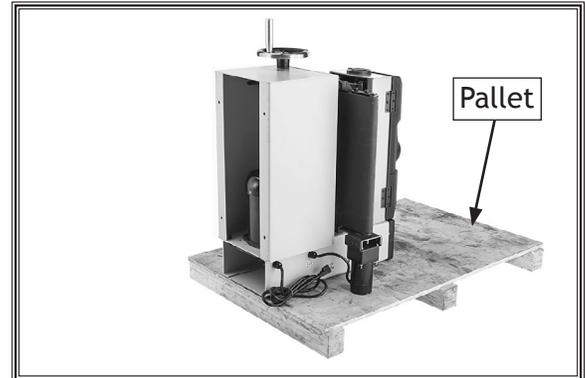

Figure 8. Sander tipped back on pallet against belt access panel.
10. With help of an assistant, tilt sander back so side with belt access panel faces pallet. Move left bottom edge of sander forward, as shown in **Figure 8**.